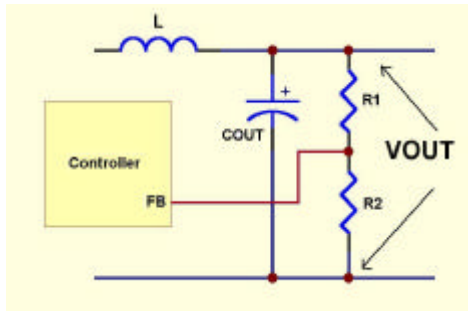

Figure 5. The voltage feedbacker
- The blue segment acts as a voltage feedbacker. As figure 5 shows,